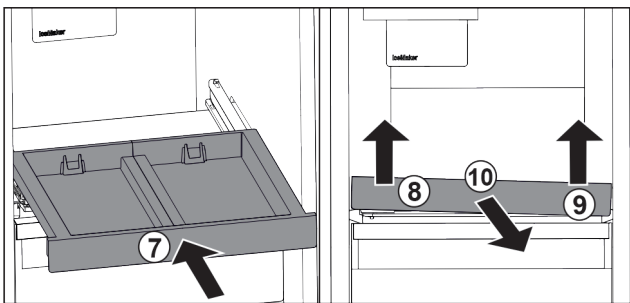

Fig. 97
- ▶ Slide in the pull-out board. Fig. 97 (7)
- ▶ Lift the pull-out board at the front left. Fig. 97 (8)
- ▶ Lift the pull-out board at the front right. Fig. 97 (9)
- ▶ Take out the pull-out board to the front. Fig. 97 (10)